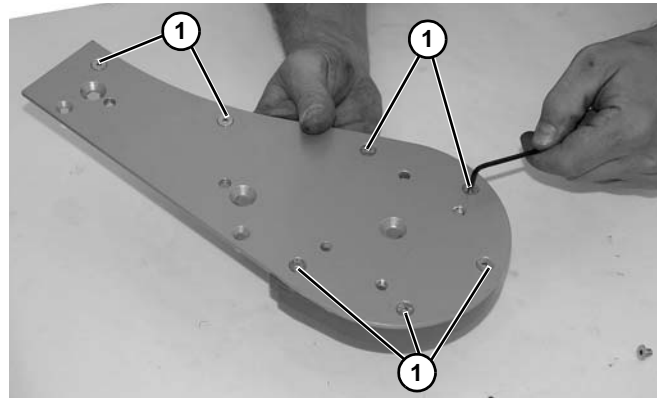

Figure 120
1. Remove seven (7) socket head screws (**Figure 120, item 1**) from idler head plate assembly.